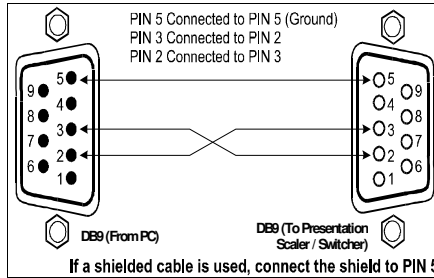

Figure 3: Connecting the PC
- Connect the RS-232 DB9 port on your PC to the RS-232 DB9 rear panel port on the **VP-740HC** unit, forming a cross-connection¹, as Figure 3 illustrates